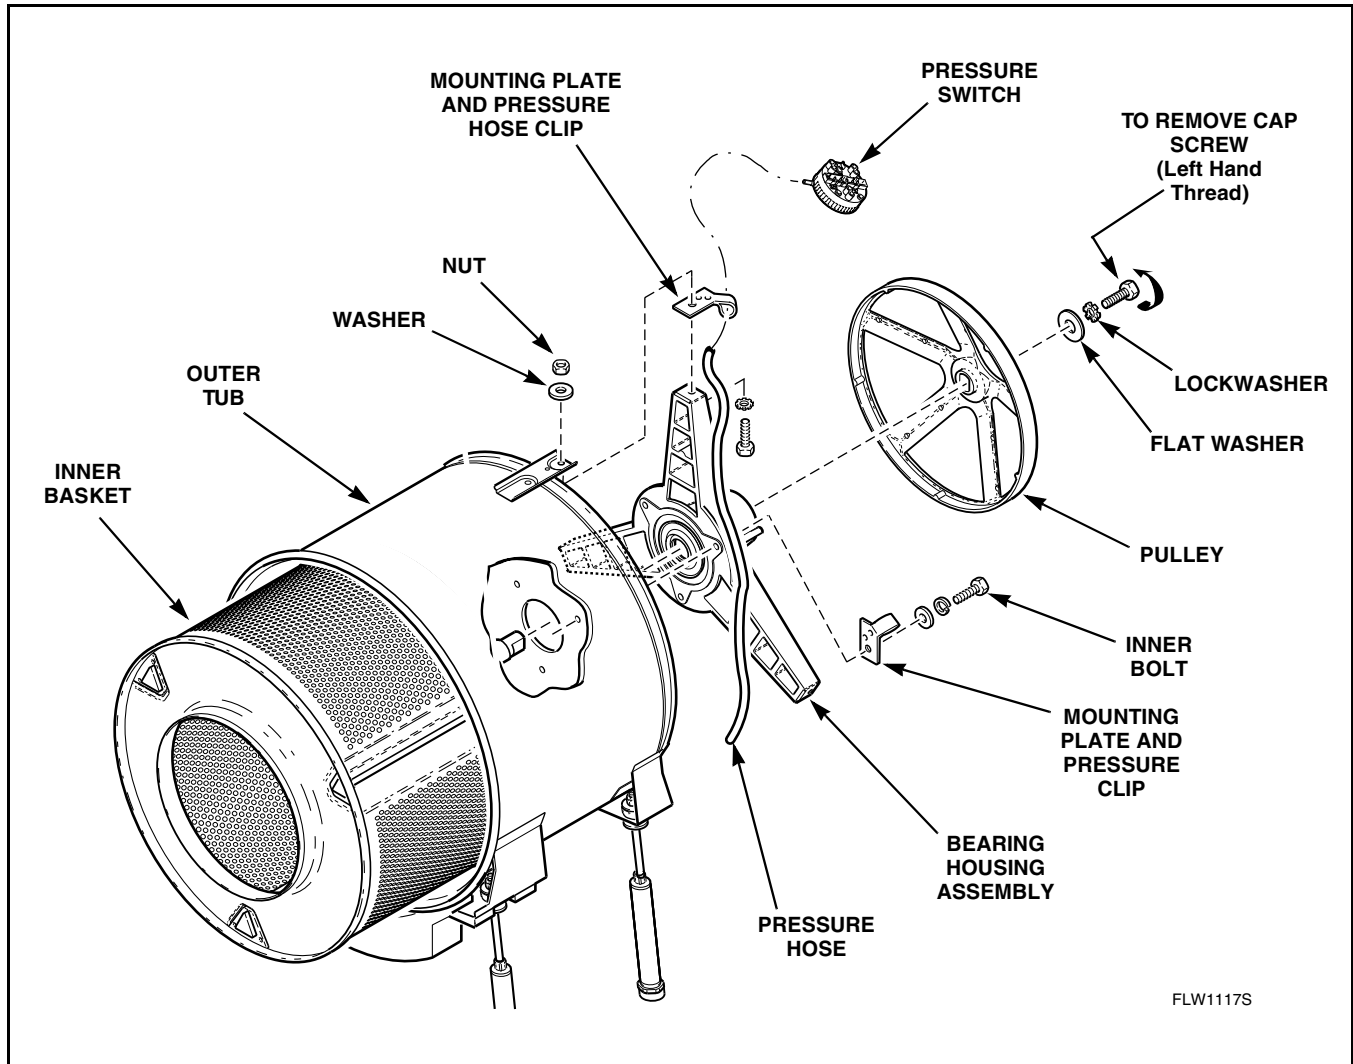

Figure 22
- f. Remove cap screw (**left hand thread**), lockwasher and flat washer holding pulley to inner basket shaft. Refer to Figure 22.